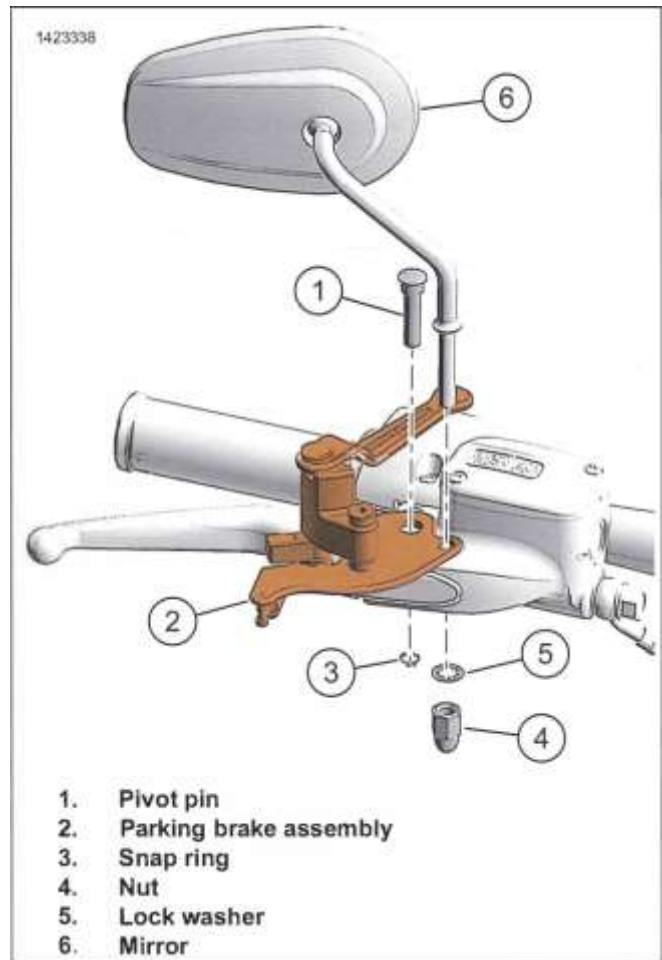

Figure 3-49. Parking Brake (Indonesia)
- See Figure 3-49. Remove mirror assembly. See MIRRORS (Page 3-132).
- Remove snap ring (3).
- Remove pivot pin (1).
- Remove parking brake assembly (2).
- See Figure 3-49. Install parking brake assembly.
- Install parking brake assembly (2) above master cylinder bracket.
- Install pivot pin (1).
- Install snap ring (3).
- Align holes in parking brake assembly (2) and master cylinder bracket. Install mirror assembly (4, 5, 6). See MIRRORS (Page 3-132).